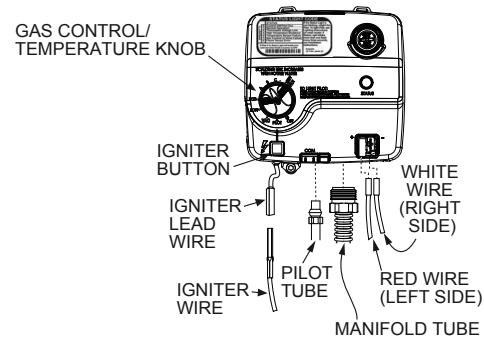

FIGURE 23. GAS CONTROL VALVE REMOVAL
4. Disconnect the igniter wire from the igniter lead wire. Use needle nose pliers to disconnect the red (+) and white (-) thermopile wires. Disconnect the pilot tube (7/16" wrench) and manifold tube (3/4" wrench) at the gas control valve/thermostat. See **Figure 23** (page